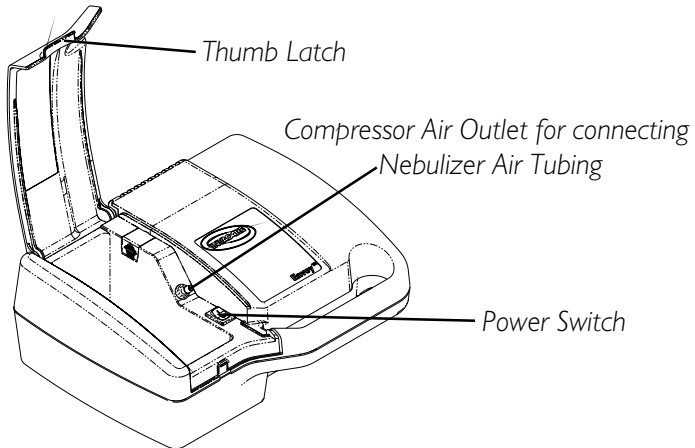

FIGURE 1 - LOCATION OF COMPRESSOR AIR OUTLET
4. Secure one end of the tubing to the compressor air outlet (**FIGURE 1**).